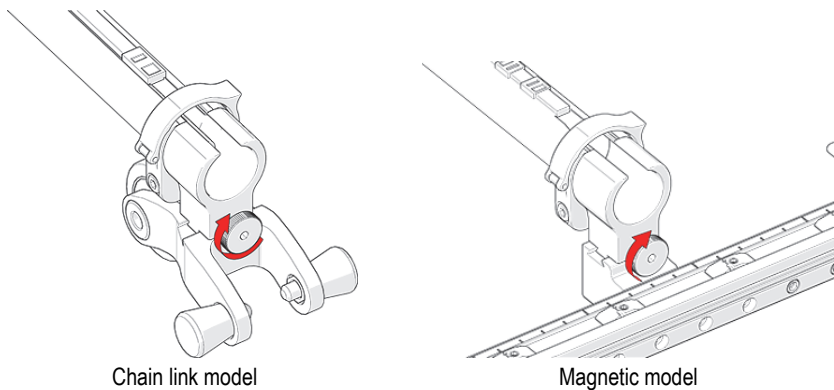

Figure 3-51 Tighten knob
2. When it is centered on the dovetail link, tighten the zipper tube's dovetail mount knob (see Figure 3-51 on page 68).